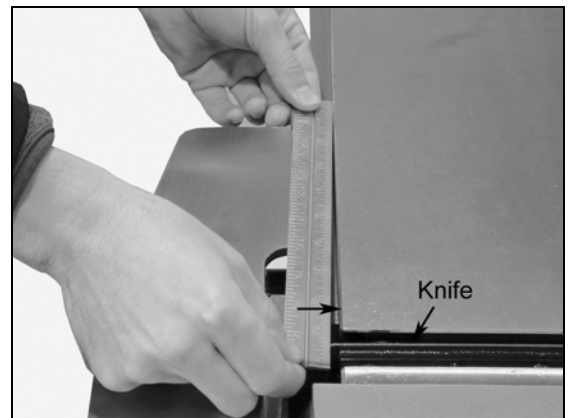

Figure 11
1. With the knife in the slot use a straight edge on the rabbeting ledge as shown in Figure 11 to push the knife into alignment with the edge.